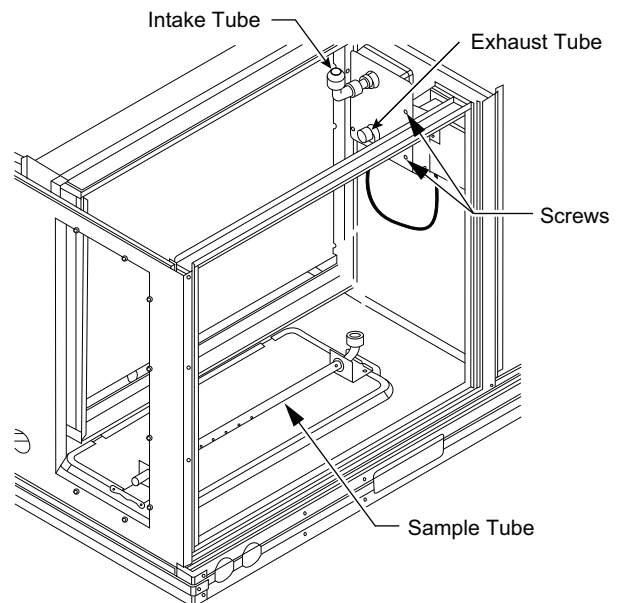

Fig. 46 — Return Air Smoke Detector Shipping Position
1. Unscrew the 2 screws holding the return air sensor detector plate. See Fig. 46. Save the screws.